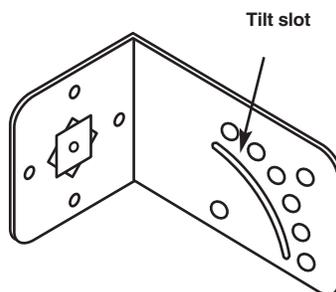

Figure 3-6. Tilt Slot.
- Use the flat plate washer on the adjustable tilt slot to secure the antenna to the required elevation (see **Figure 3-6**).